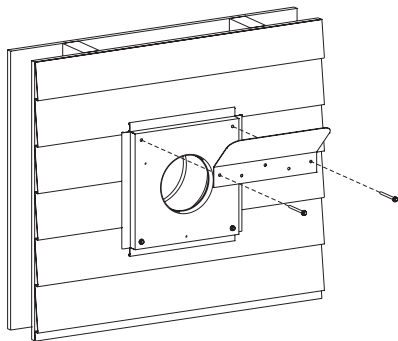

Figure 1
3. Attach outside wall plate and vent shield to exterior wall with (4) #10 x 2 1/2 (63.5 mm) screws provided. Use two screws to attach the vent shield to the outside wall plate and through to the exterior mounting surface. See Figure 1.
3. Attach air inlet tube onto the collar of air drop assembly. Attach caulked, outside wall plate into the air inlet tube. Position the outside wall plate so that the air inlet tube has a slight downward slope to the outside. The downward slope is necessary to prevent the entry of rainwater. Attach outside wall plate and vent shield to exterior wall with (4) #10 x 2 1/2 (63.5 mm) screws provided. Use two screws to attach the vent shield to the outside wall plate and through to the exterior mounting surface. See Figure 1.
5. Apply furnace cement to flue outlet collar on combustion chamber and to collar on vent cap. Attach flue outlet tube onto flue outlet collar on combustion chamber. Attach vent cap into the flue outlet tube. Attach vent cap to outside wall plate with (3) #10 x 1/2" (13 mm) screws provided.